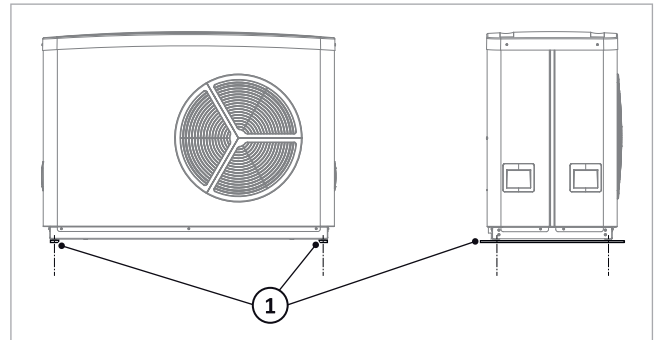

Fig. 5: Mounting the WP Lea damper assembly aid
1. Screw the WP Lea damper mounting aid to the SolvisLea/SolvisLea 8.3 Premium on the left/right as shown in → Fig. 5 using 2x M8 screws and washers.